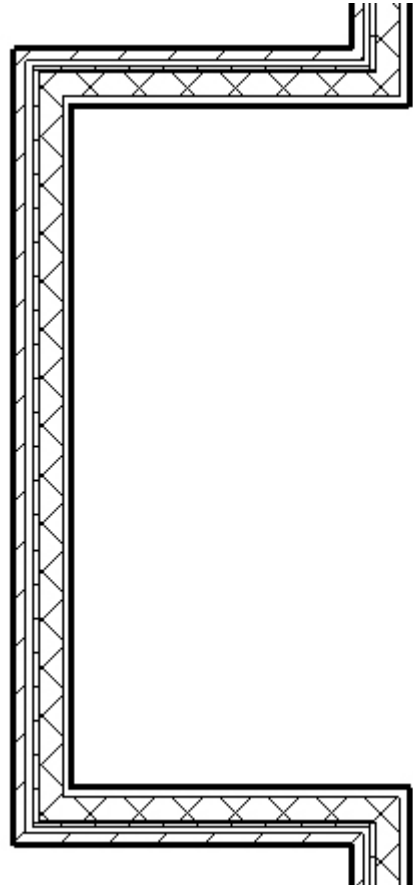

Figure 3-3.6 Trim tool
19. Select **Modify** → **Edit** → **Trim** to trim the corners so the exterior wall only occurs at exterior conditions (Figure 3-3.6).